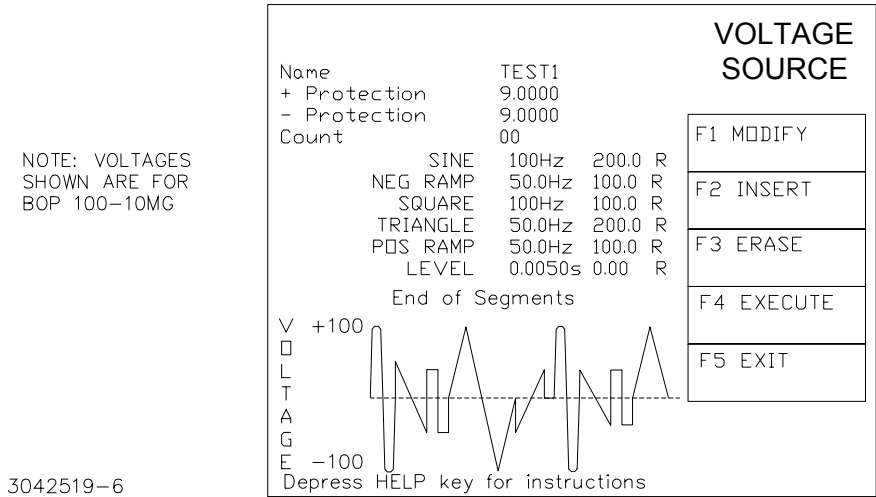

FIGURE 3-10. WAVEFORM SETTINGS MENU
After observing the precautions of PAR. 3.3.9.1, press **F2** from the power-up screen to access the Saved Waveforms screen (Figure 3-9). Use **↑** or **↓** or the encoder to highlight the name of a previously saved waveform, then press **F1** to view the Waveform Settings screen (see Figure 3-10). The lower half of the LCD shows a representation of the programmed waveform. The letters along the vertical axis of the graph at the lower left side indicate whether the waveform is programmed to operate in voltage or current mode. The message at the upper right indicates the actual mode of the power supply while the waveform is being executed. The upper half presents the waveform name, positive and negative protection settings, the repetition count, followed by a listing of segments. The type (square, sine, etc.), frequency, p-p amplitude, and whether the segment is initial (run only the first time) or repeating is indicated by I or R, respectively. To see the offset, start/stop angle, initial/repeat for a segment, use **↑** or **↓** or the encoder to highlight the segment, then press **F1** (Initial/Repeat is not available for the last segment, since the last segment must repeat). Use **↑** or **↓** to highlight the parameter, press **F1**, then set the value or highlight the desired setting and press **F4** to save for power-up or **F5** to abort and exit without changing the parameter.
To delete a segment, highlight the segment at the Waveform Settings screen (Figure 3-10), the press **F3**, to permanently erase the segment. This change is saved immediately and can not be undone.
To add a segment, at the Waveform Settings screen (Figure 3-10) highlight the segment following the one to be added (e.g., if there are three existing segments (1, 2, 3), to add a segment between 2 and 3, highlight 3. To add a segment following 3, highlight **End of Segments**. After highlighting the segment, press **F2** to insert a new segment. The parameters applicable to the waveform type selected (see Table 3-11 for details) can then be modified as desired.
1. After observing the precautions of PAR. 3.3.9.1, press **F2** from the power-up screen to enter the Saved Waveforms screen (Figure 3-9), highlight one of the waveforms designated **Empty**, then press **F2**. The Waveform Settings screen (Figure 3-10) opens.